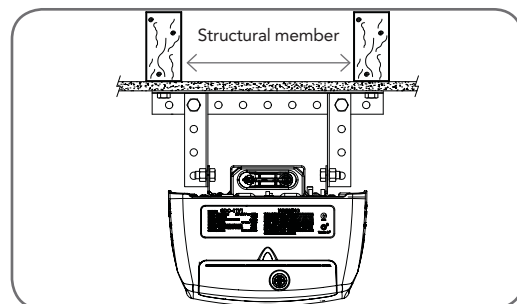

fig 19
- Secure the perforated angle (not supplied) to the ceiling above where powerhead's mounting holes will be once fully installed. A representative mounting is shown (**Fig. 19**)
- Secure the perforated angle (not supplied) to the ceiling above where powerhead's mounting holes will be. See (**Fig. 19**) for a representative mounting.
- Connect the powerhead to the ceiling mounted perforated angle with M8x20mm screws and nuts. Strips should not extend more than 18mm below centre of powerhead mounting holes (**Fig. 19**).